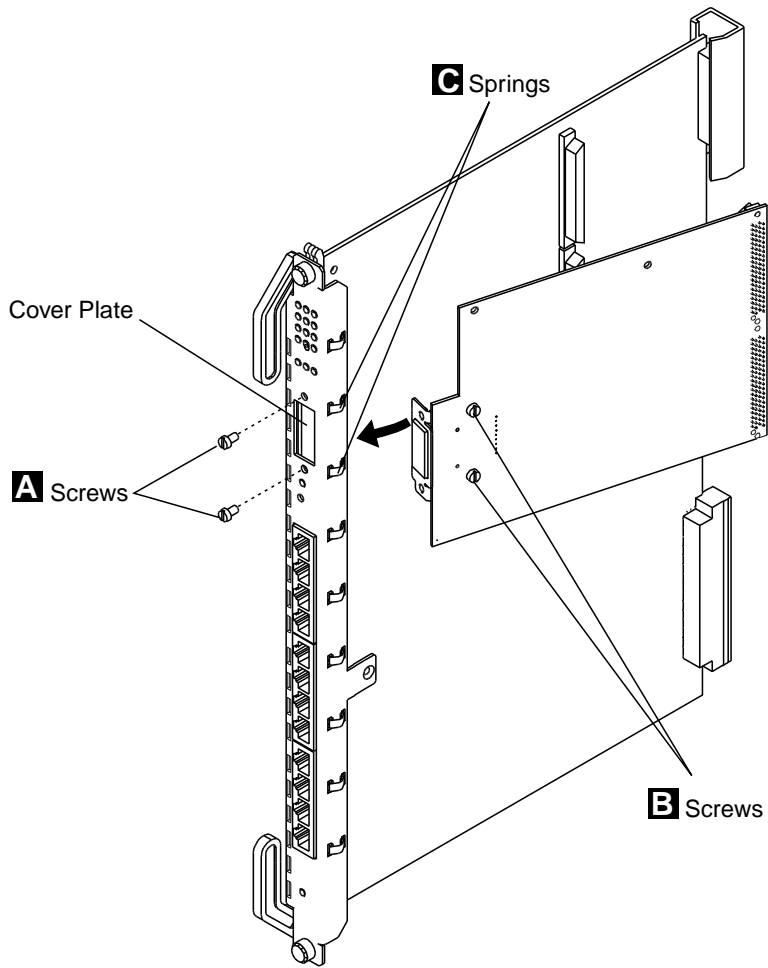

Figure 9. Installing a 155 Mbps I/O Card on the 25 Mbps Module Motherboard
When installing an I/O card on the motherboard, be careful not to touch its components. Always hold the card by the faceplate or by its edges as shown in Figure 9 on page 54.
- **1** Remove the cover plate from the port opening on the module faceplate by removing the two screws ( **A** in Figure 9 on page 54). Keep the screws in a safe place.